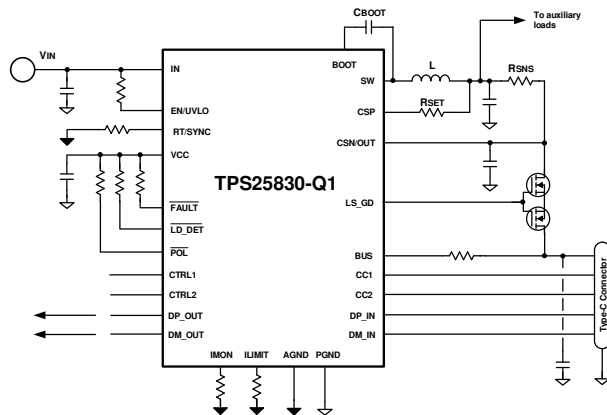
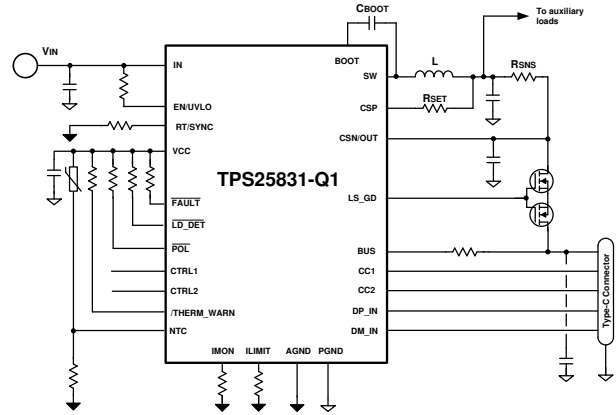

Figure 54. TPS25830-Q1 Current Limit with External MOSFET
Figure 55. TPS25831-Q1 Current Limit with External MOSFET
- With external MOSFET Figure 54, Figure 55:
The TPS2583x-Q1 has integrated NFET gate drivers, and can support current limit with external NFET. Refer to Figure 54.